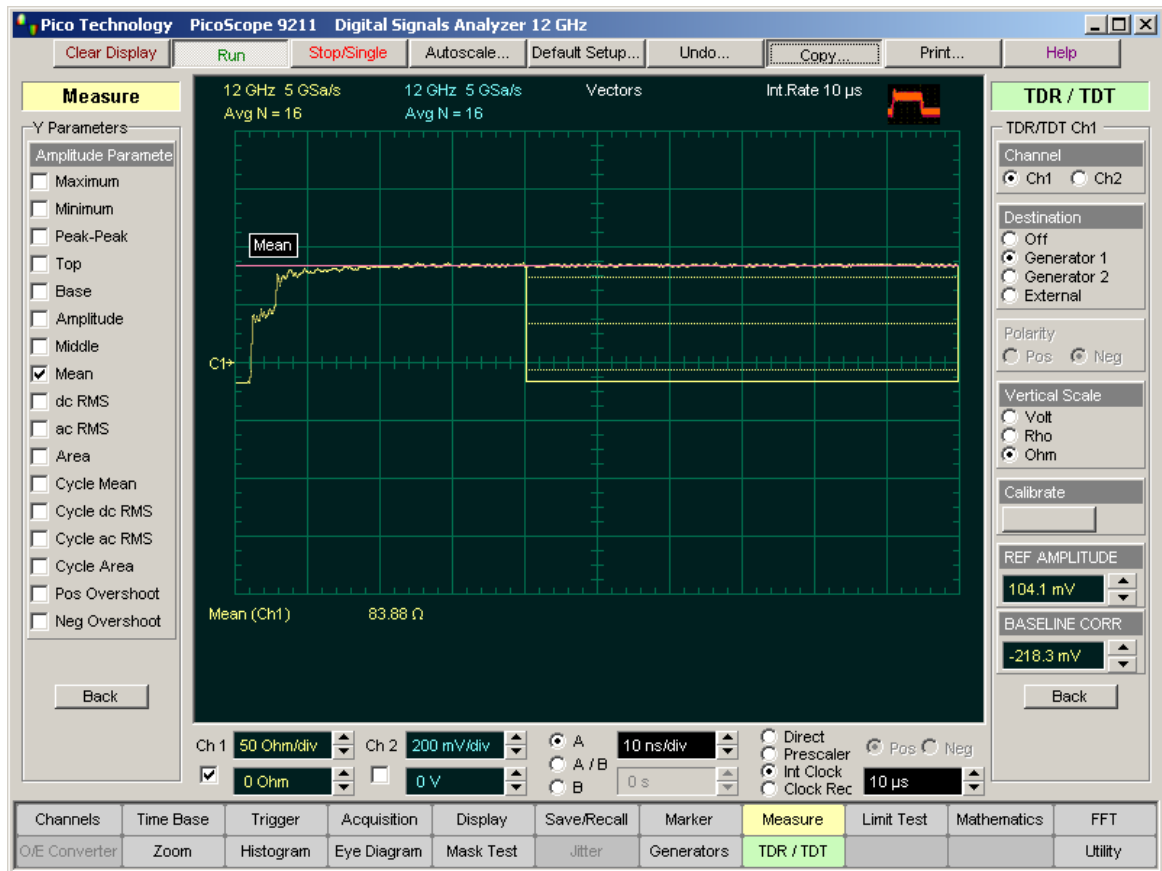

Figure 7
8. Click **Ohm** in the **Vertical Scale** menu. Switch the vertical scale to 50 ohm/div. See Figure 7.